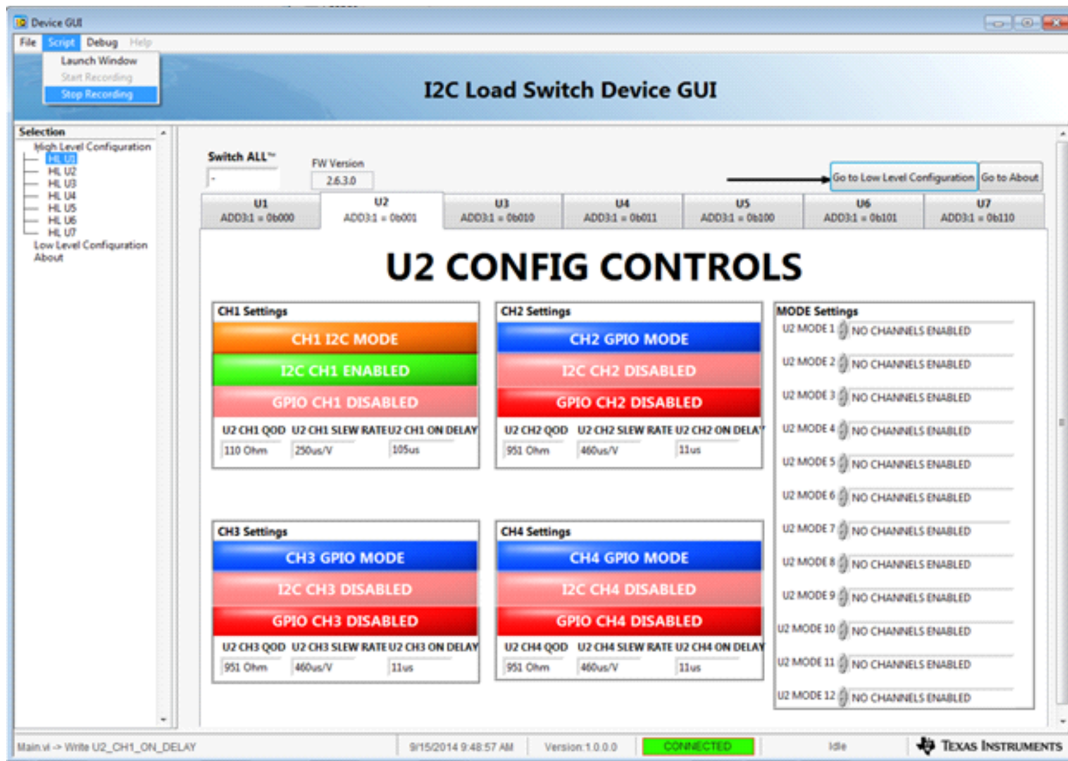

Figure 18. Python Script Window Stop Recording
- (I) Go to the script drop down menu and select Stop Recording, see Figure 18. The Python window should now have the GUI.__del__() command added to the last of the script and the Python window should have stopped flashing green.